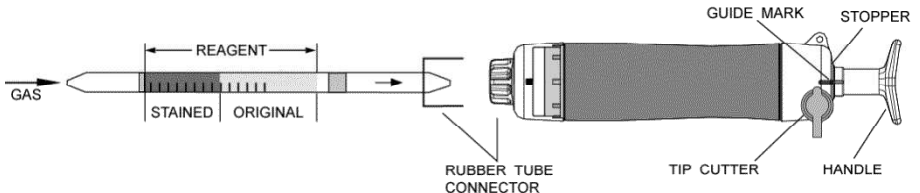

Fig.1
- ① Break both ends of the detector tube.
- ② Insert the detector tube into the aspirating pump securely as shown in Fig.1. (Arrow mark shall point to the pump.)
- ③ Align the guide marks on the shaft and stopper of the aspirating pump.
- ④ Pull the pump handle at a full stroke until it locks and wait for 2 minutes or until the completion of sampling is confirmed with the flow indicator of the pump (See descriptions about the flow indicator in the instruction manual of the pump).
- ⑤ On completion of sampling, read the scale at the maximum point of the stained layer.